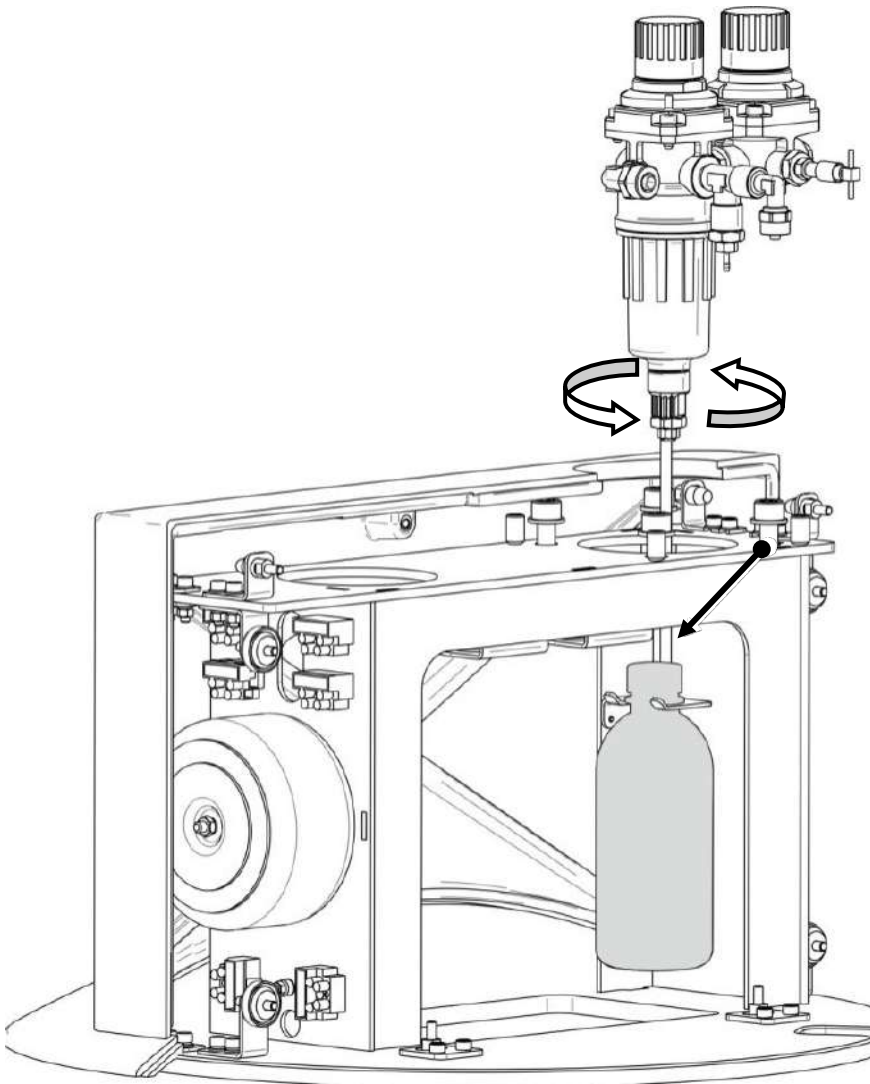

Figure 8.6.1.
- turn the filter valve according to Figure 8.6.1.